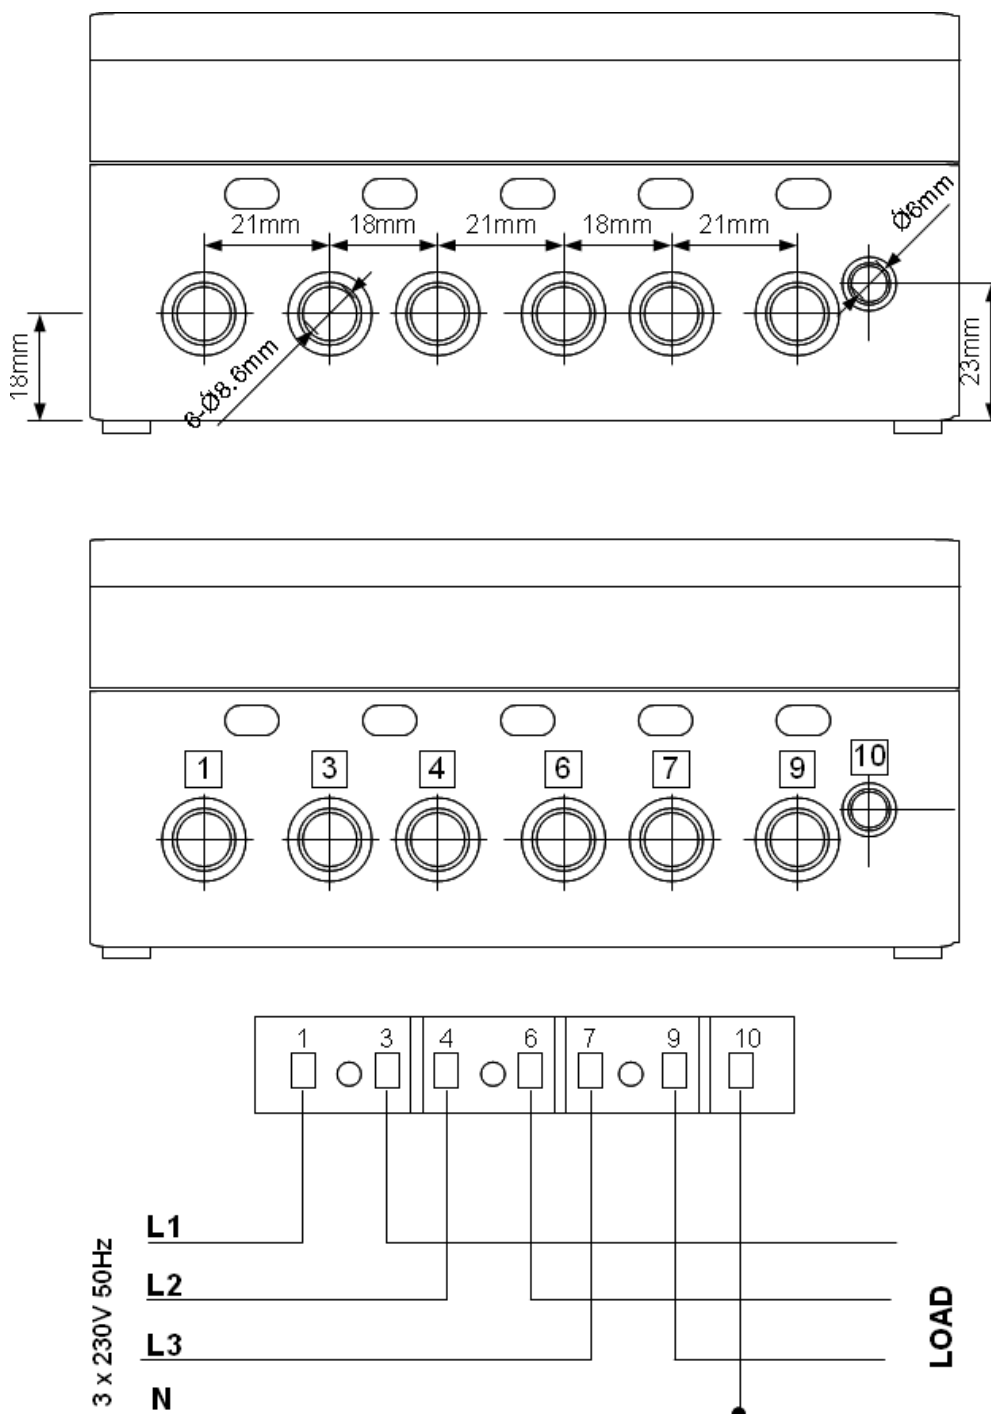

Fig. 4.3. Terminal dimensions and connection diagram M380
4. Connect the wires according to the diagram on the terminal cover and according to installation diagram in this guide, see Fig. 4.3, 4.4. Tighten the terminal screws firmly.